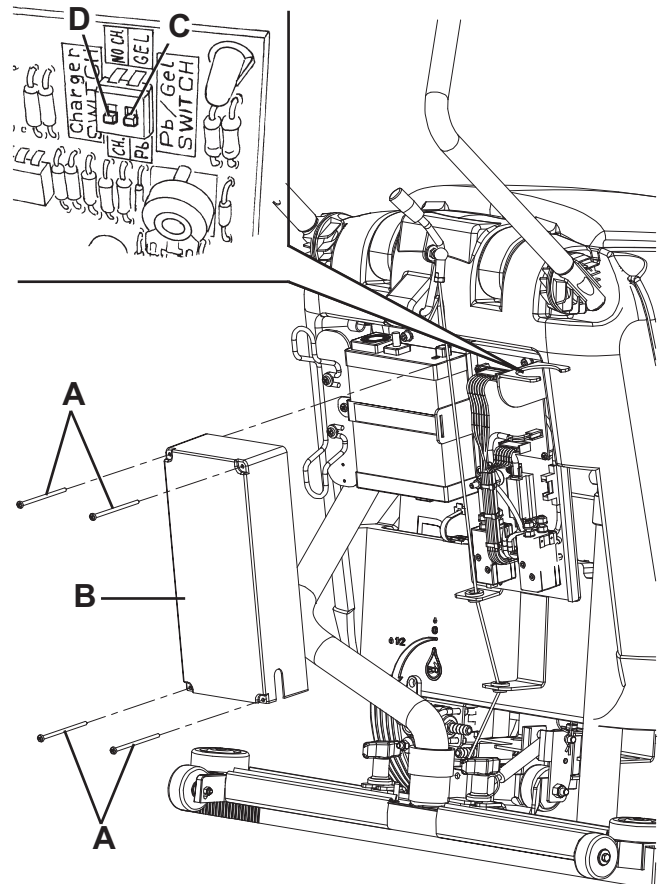

Figure 1
2. Remove the screws (A, Fig. 1), then remove the electrical component box cover (B).